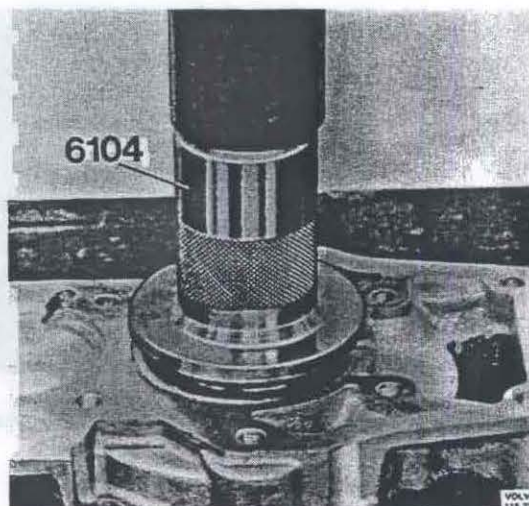
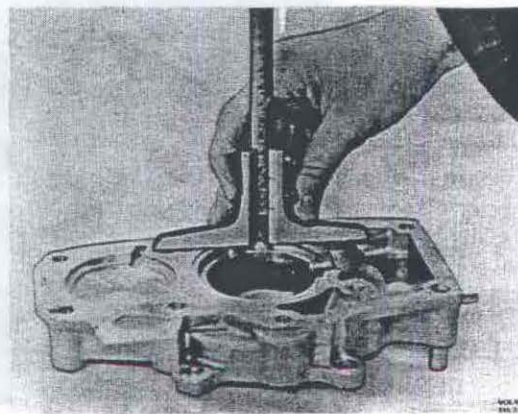

Fig. 43-117. Driving in seal
Fig. 43-118. Calculating clearance
22. Drive new seals into the rear cover, Fig. 43-117, with 6104. Measure the depth of the machined recess in the rear cover for the output shaft bearing, Fig. 43-118. Measure the distance between the bearing and the face of the seal, Fig. 43-118. The difference between the two measurements may be  $\pm 0.05$  mm (0.002"). Shims are available in the following sizes: 0.2, 0.5, 0.6, 0.7, 0.8, 0.9 and 1.0 mm (0.016, 0.020, 0.024, 0.028, 0.032, 0.036 and 0.039"). Grease the seal in the cover and fit on the cover.